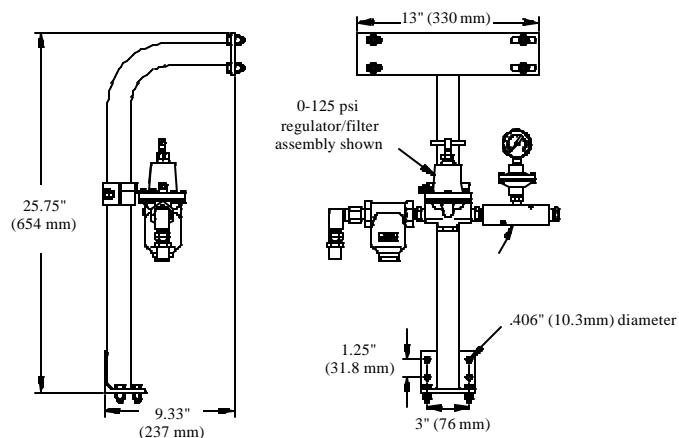

Figure 4. Machine-Mount System Pedestal
**Note!** The control may also be mounted either to Valco’s machine-mount or mobile system pedestals (see Figures 4 and 5).